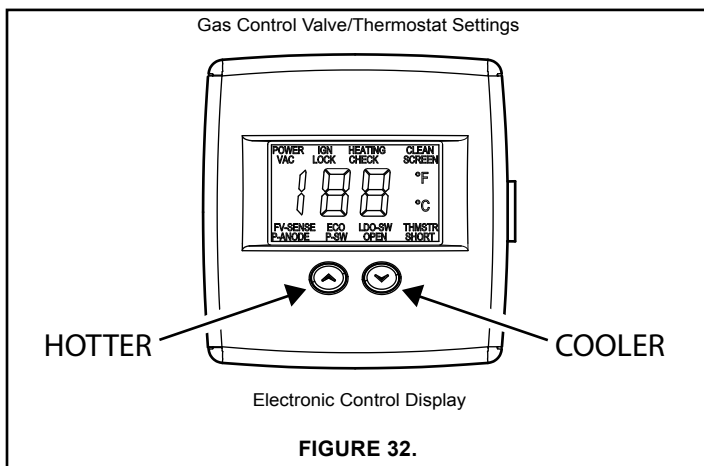

FIGURE 32.
should be used at the hot water taps used by these people or at the water heater. Mixing valves are available at plumbing supply or hardware stores, see Figure 24. Follow manufacturer's instructions for installation of the valves. Before changing the factory setting on the thermostat see Table 5 and Figure 32. Using the lowest hot water temperature that meets your needs will also provide the most energy efficient operation of the water heater. Never allow small children to use a hot water tap, or to draw their own bath water. Never leave a child or handicapped person unattended in a bathtub or shower.
- "Unlock" the temperature indicators by holding down both "COOLER" and "HOTTER" temperature adjustment buttons at the same time for one second (See Figure 32). The display will light up. The display will only remain on for 30 seconds if no further buttons are pressed. After 30 seconds the control will go back to "Lock" mode ("Lock" mode indicates a temperature setting is locked into the control memory).
1. Set the gas control valve/thermostat to its lowest setting by pressing the “COOLER” and “HOTTER” buttons together at the same time holding for 1 second. Then press the “COOLER” button to the lowest setting (Figure 32).